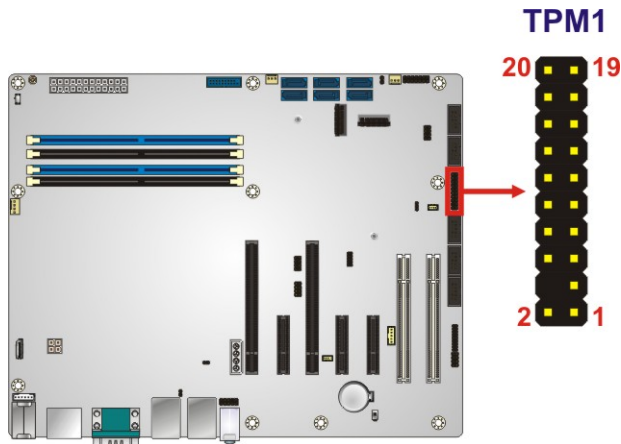

Figure 3-30: TPM Connector Location
- CN Location:** See **Figure 3-30**